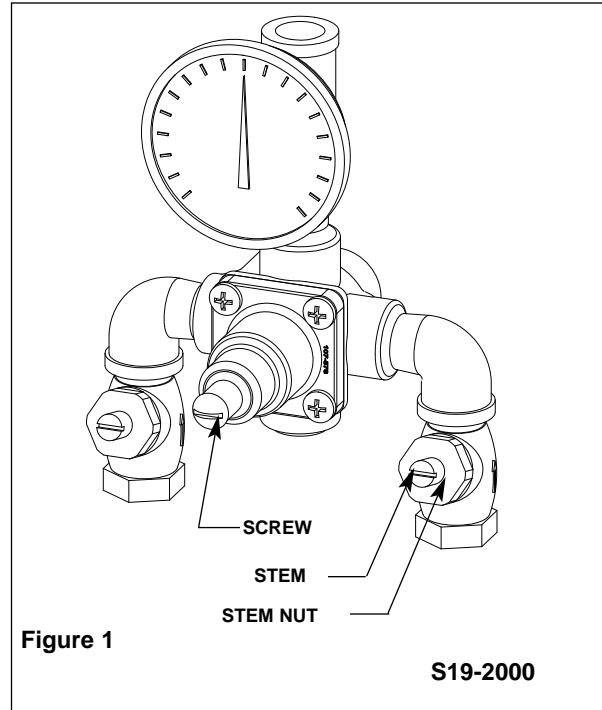

Figure 1
Note: When the stop/check valves are in the closed position, the stem for the stop/check will be 1/4" above the stem nut (see Figure 1). When the stop/check valves are in the open position, the stem will extend out approximately 1/2" (13 mm) from the stem nut.
- make sure that the stop/check valves are fully open (the slotted stem must extend out approximately 1/4" (6 mm) from the valve cap) (see Figure 1 on page 3) and that all inlet and outlet shut-off valves are open